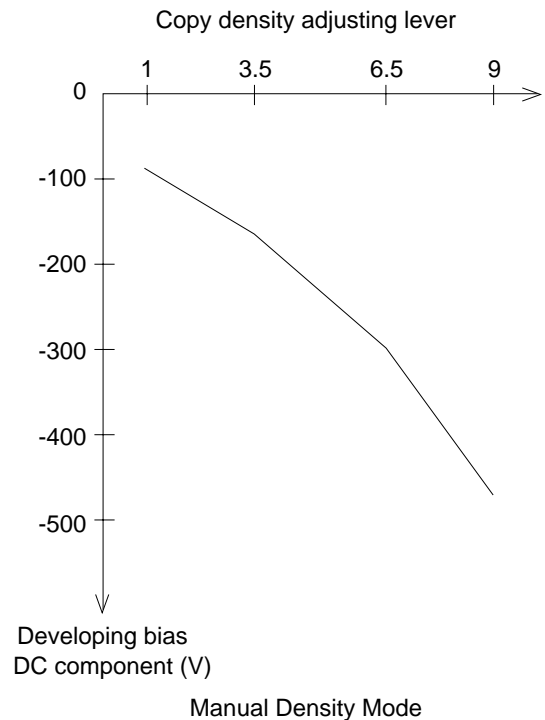

Figure 4-112 (Non-SW101)
When measuring the density of an original, the scanner turns on the scanning lamp, and moves to a point 115 mm from the home position. At this time, the AE sensor reads the level of light reflected by the area shown in Figure 4-112, and sends the AE signal (AE) to the DC controller PCB.